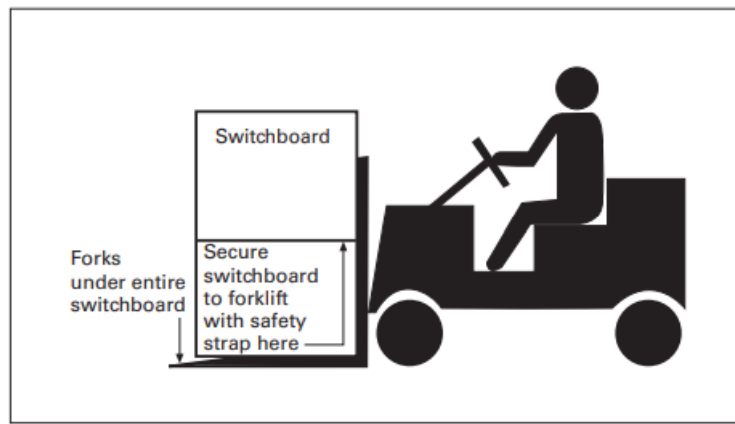

Figure 6. Forklift
- The forks or blades of the forklift must run through the entire switchboard shipping length and shall be extended to the outermost sides of the wooden shipping skids. (See Figure 6.)